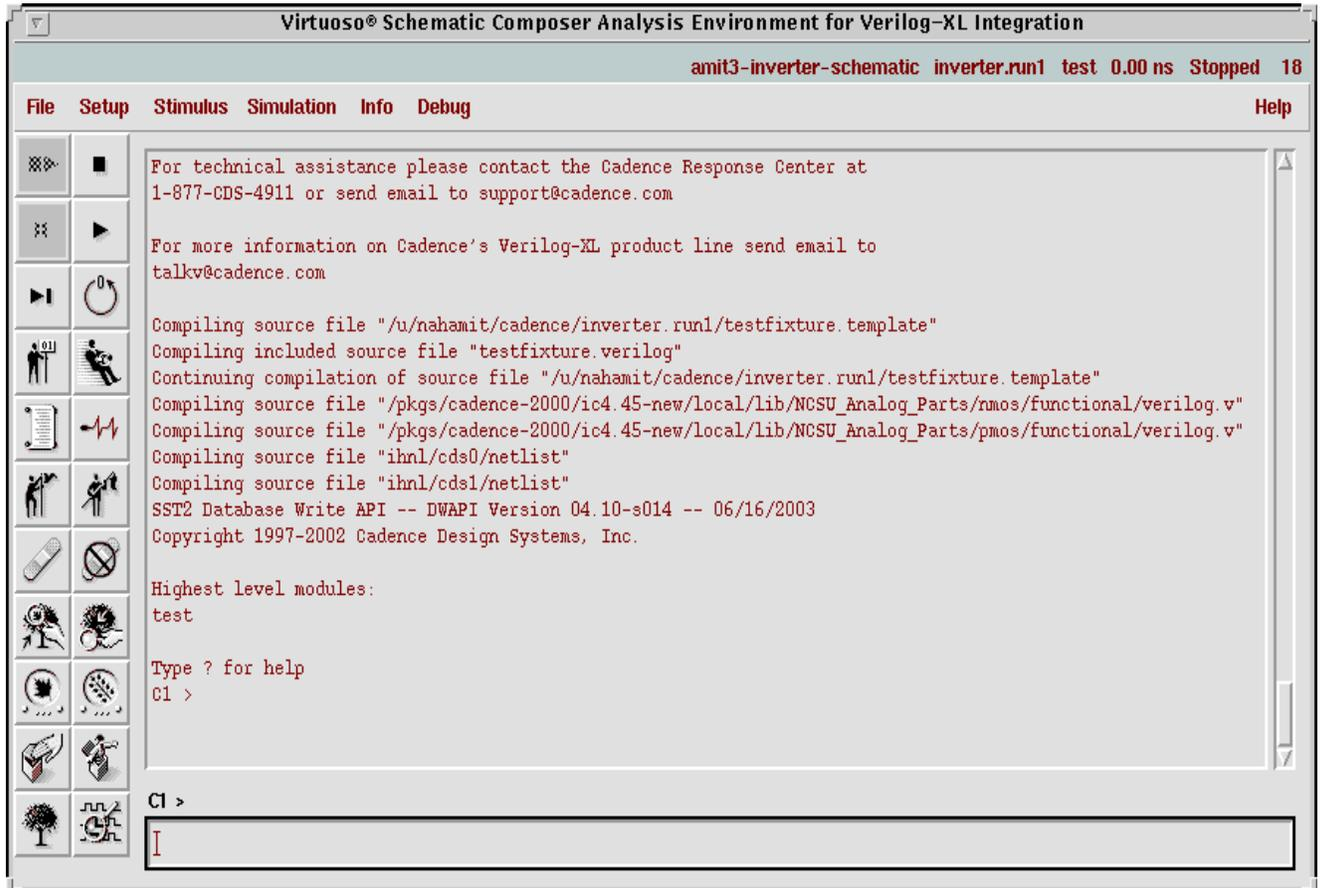
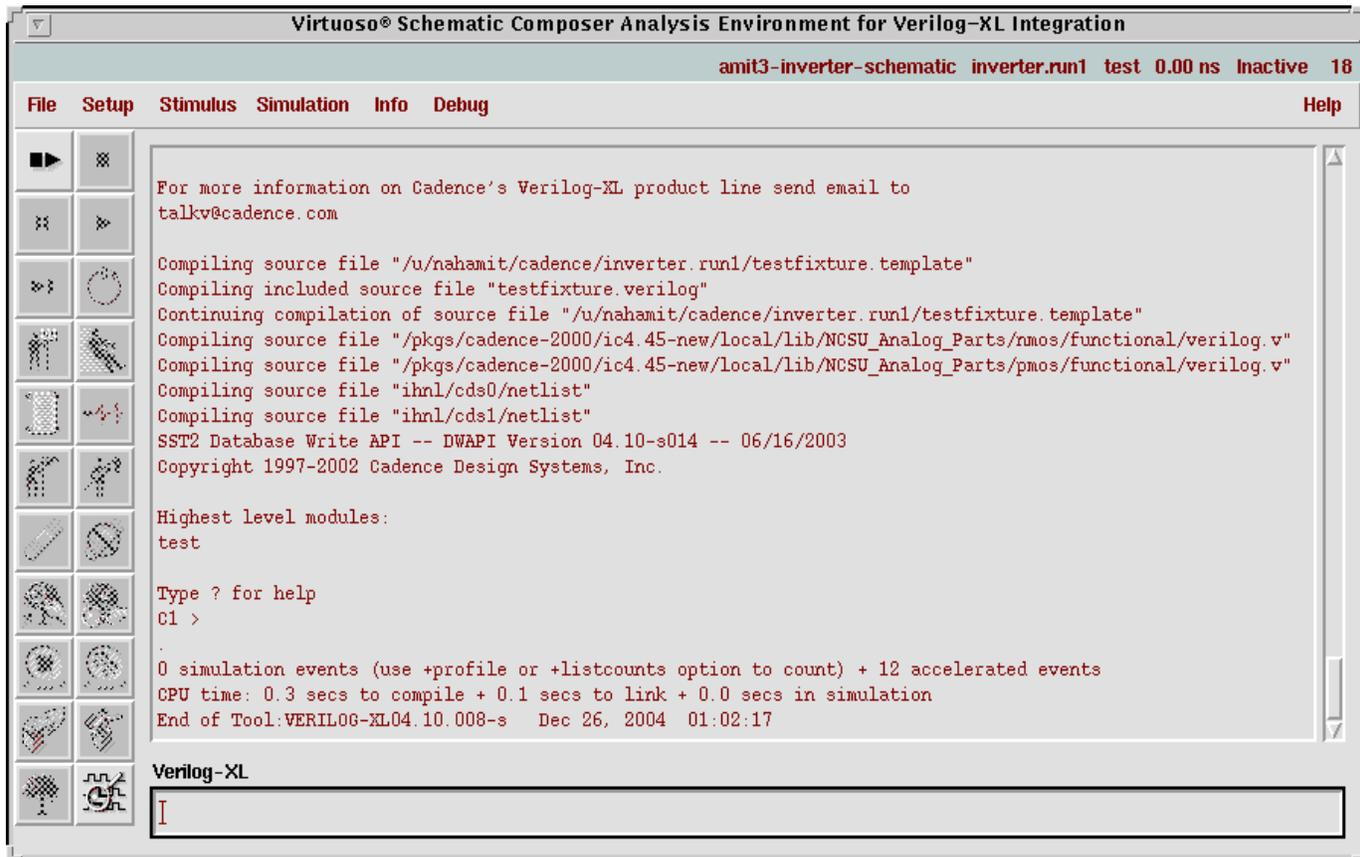

Fig 13: Compiling the netlists and the stimulus file
Fig 14: Simulation is complete
- d. In the “Virtuoso Schematic Composer Analysis Environment for Verilog-XL Integration” window click **Simulation** → **Start Interactive**. At this stage the stimulus and the netlists are compiled. If there are any errors in the netlist or the stimulus file then the errors show up. If everything is correct, then the stimulus file and the netlists are compiled and the window shows up as shown in Fig 13.
- e. In Fig 13 click **Simulation** -> **Continue**.
- f. Fig 13 now shows up as shown in Fig 14. Thus the simulation is complete.
- a. In Fig 14 click on the **View Waveforms** button. (This is the button which is enabled in Fig 14 in lower left corner).